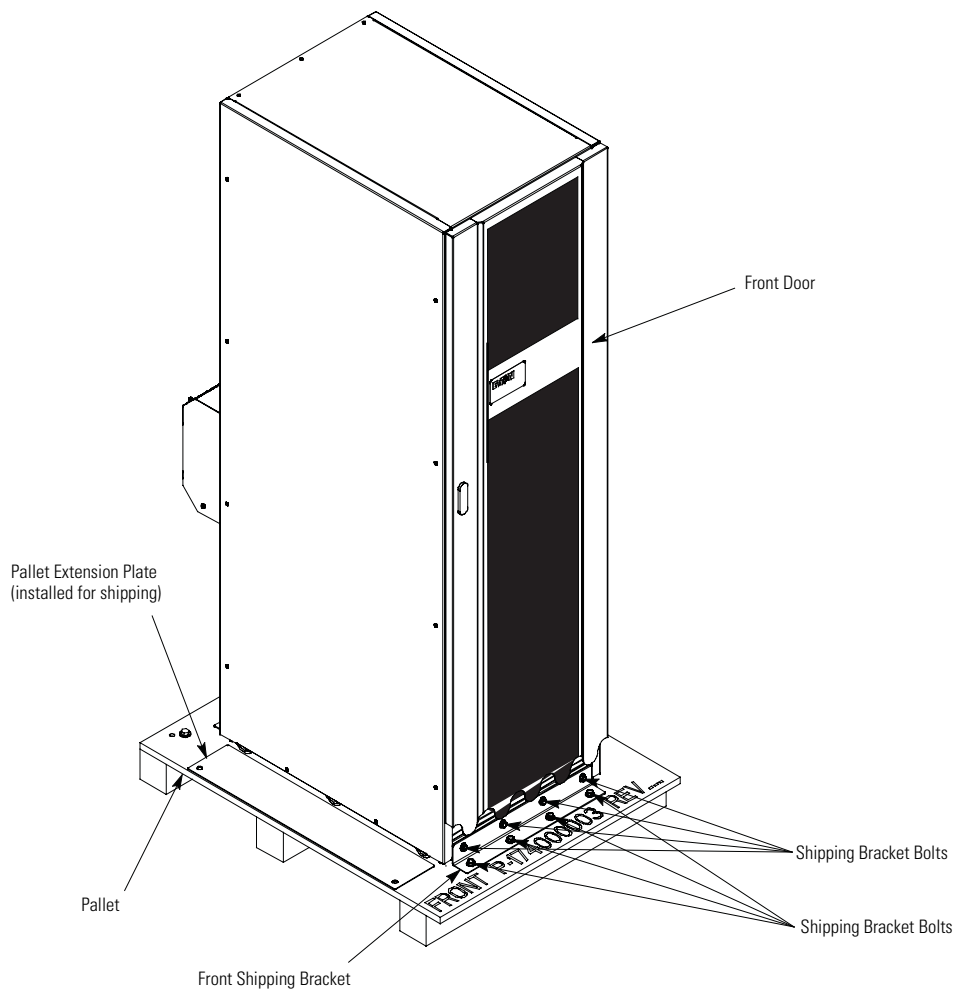
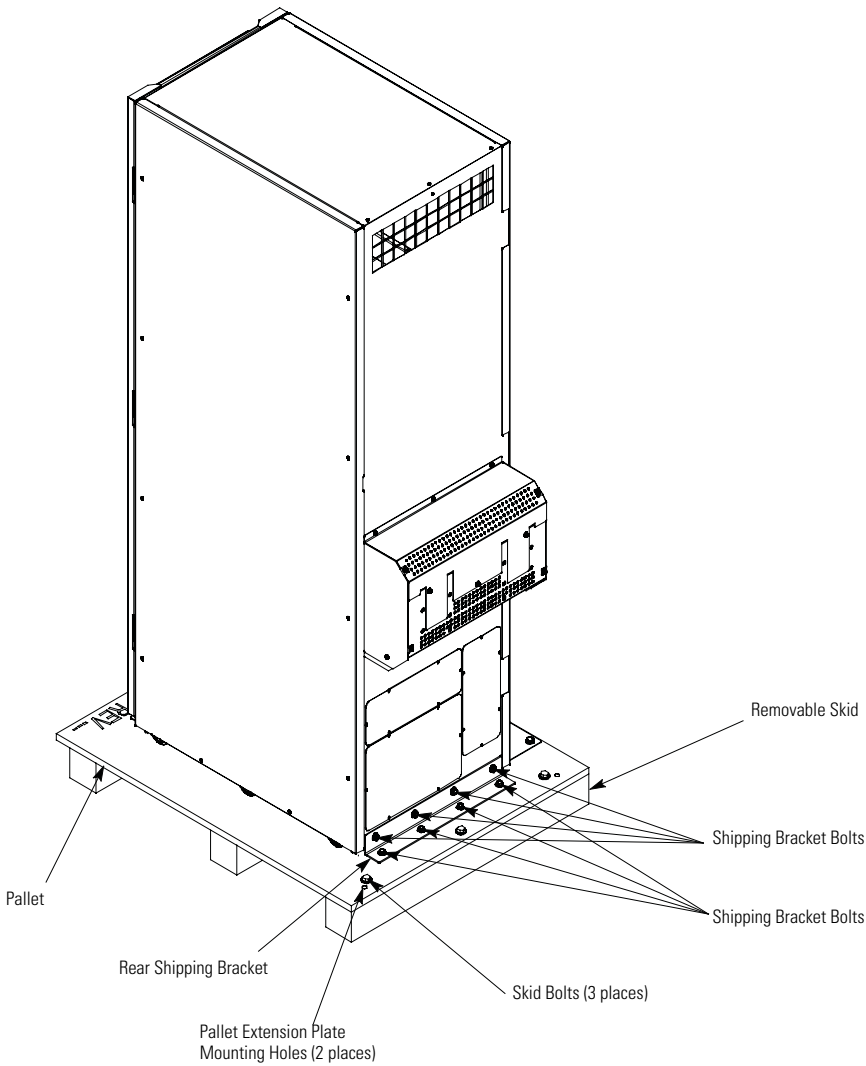
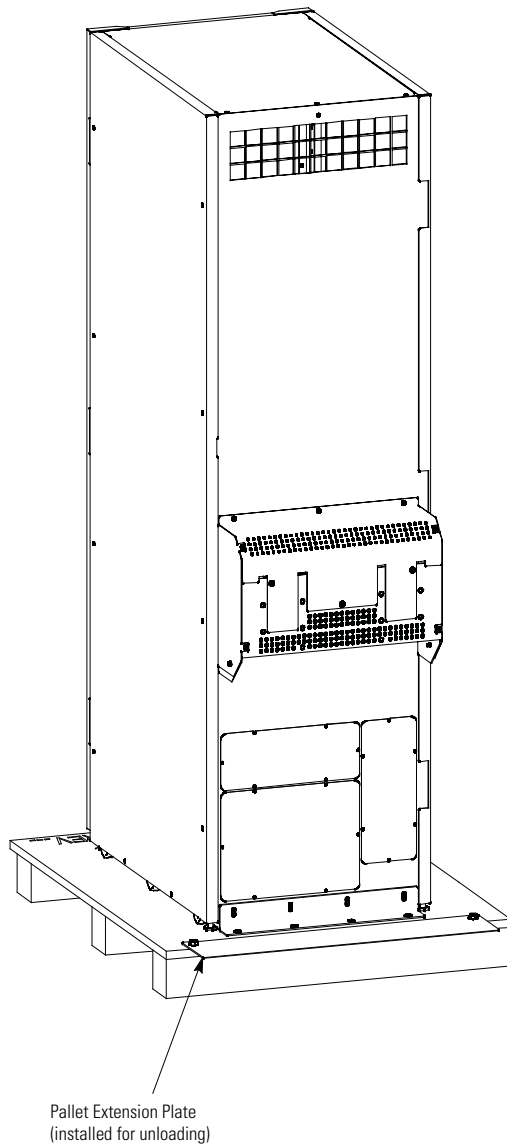

Figure 4-5. Removing the Front Shipping Bracket – 93E 60IAC-D
Figure 4-6. Removing the Rear Shipping Bracket – 93E 60IAC-D
Figure 4-7. Installing the Pallet Extension Plate – 93E 60IAC-D
4. Remove four bolts securing the front shipping bracket to the cabinet and four bolts securing the bracket to the pallet (see Figure 4-5). Remove the front shipping bracket. If installing the cabinet permanently, retain the shipping bracket and securing hardware for later use.
5. Remove four bolts securing the rear shipping bracket to the cabinet and four bolts securing the bracket to the pallet (see Figure 4-6). Remove the rear shipping bracket. If installing the cabinet permanently, retain the shipping bracket and securing hardware for later use.
7. Remove three bolts securing the removable skid (see Figure 4-6).
8. Remove two bolts securing the pallet extension plate to the pallet and remove the plate (see Figure 4-5).
9. Install the pallet extension plate onto the rear of the pallet using the retained bolts (see Figure 4-7). Use the mounting holes provided in the pallet (see Figure 4-6).
10. If necessary, use a forklift or pallet jack between the supports on the bottom of the pallet to lift the pallet by approximately 3 mm (1/8") and remove the skid (see Figure 4-6).
16. Using the retained hardware (removed in Steps 4 and 5), reinstall the shipping brackets to the front and rear of the IAC-D with the angle facing outward (see Figure 4-5 and Figure 4-6).
18. If not already open, open the front door by lifting the latch from the bottom and turning to the right (counterclockwise) and swing the door open (see Figure 4-1 or Figure 4-5).